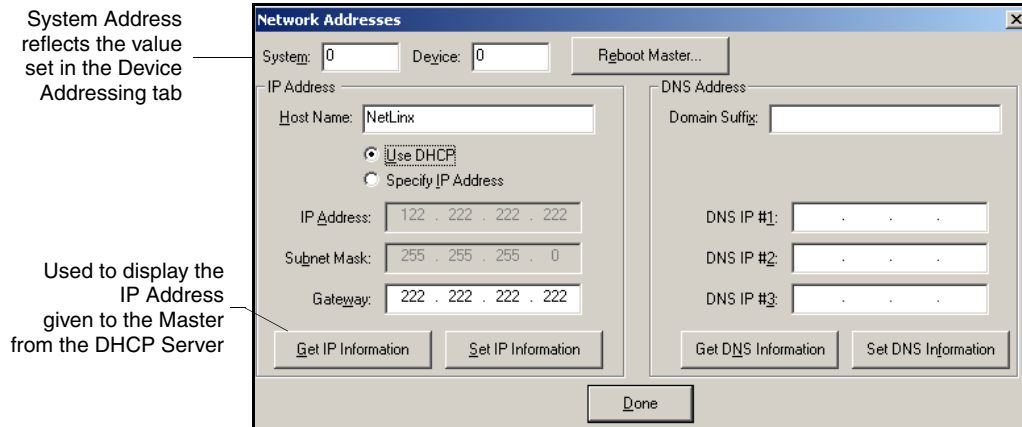

FIG. 20 Network Addresses dialog (showing Get IP)
2. Verify the **System** number corresponds to the value previously assigned in the Device Addressing tab and verify that zero (0) is entered into the Device field.
4. Click the **Use DHCP** radio button from the IP Address section (FIG. 20).